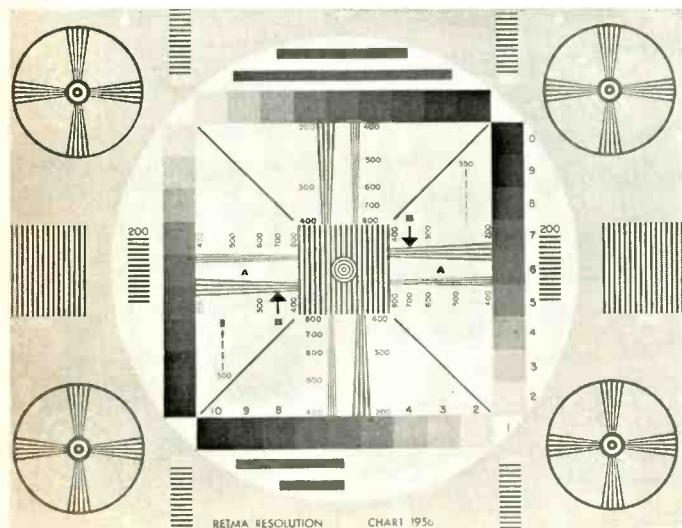

Fig. 1. The RETMA test pattern. Actual size is 18 by 24 in.
While many different methods may be employed to analyze, adjust, and evaluate the various components employed in video recording and closed-circuit television systems, the examination of a properly lighted test pattern, such as that illustrated in Fig. 1, displayed on a standard video monitor of known quality, is probably the simplest and most effective for general purposes. These two devices will provide a quick and accurate means of determining overall performance, comparing equipment, checking and making adjustments, and diagnosing many of the problems which may be encountered in video components and installations. Problems in bandwidth, over-all frequency response (r.f., i.f., and video), phase shift (streaking), shading and contrast of horizontal and vertical signals, as well as focus, centering, aspect ratio, linearity, and distortion can all be interpreted from a test pattern.
Vertical resolution is usually expressed in the number of distinct horizontal lines, alternately black and white, which can be perceived in a test pattern. The horizontal wedges, indicated as (A) in Fig. 1, are employed for this purpose. These wedges each consist of two groups of four individual converging lines. The vertical resolution is determined by locating the point at which the individual lines are no longer separately visible and then reading the calibration figure adjacent to that point. For example, were we to check a high quality video camera, operating at the standard 525-line rate, we would find the individual lines on the horizontal wedges would merge and become indistinct in the vicinity of point (B) in Fig. 1 indicating that the vertical resolution was approximately 350 lines.